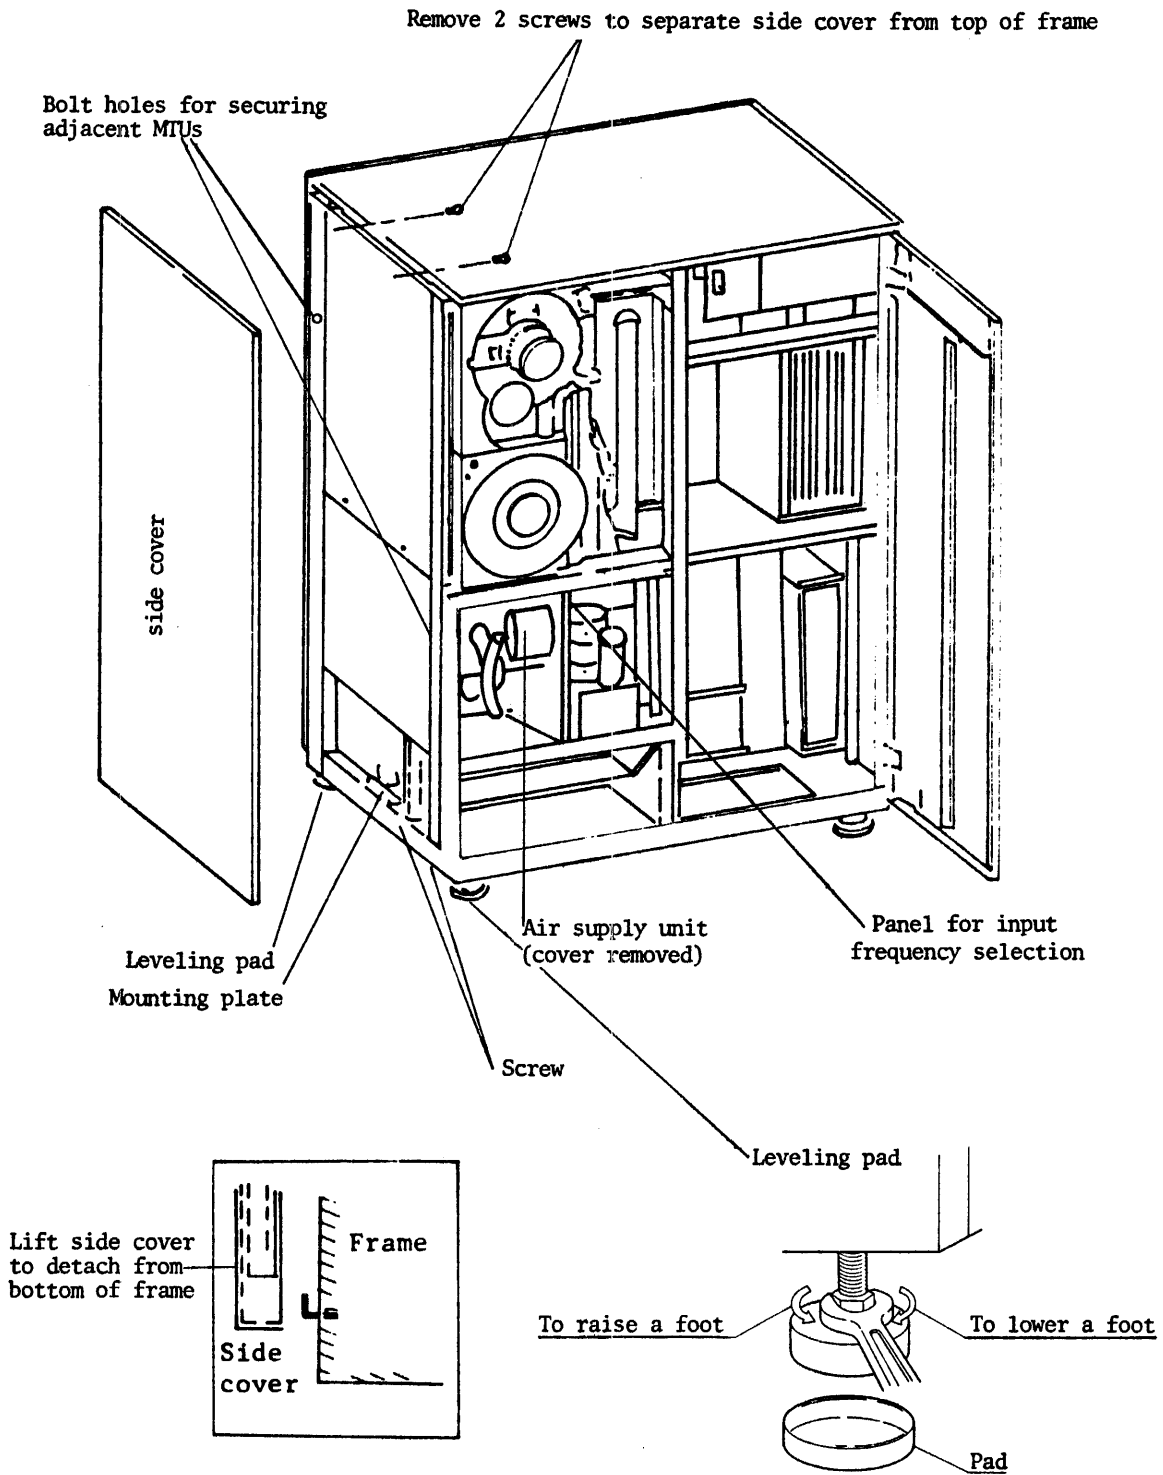

Figure 1-3. Master unit (front view).
When two or more MTUs are installed side by side, remove covers from the sides that will be adjacent to one another. Only the end units require side covers. Refer to Figures 1-3 through 1-6, and follow these steps:
- (1) Remove the two screws shown in Figure 1-3 to loosen side cover from top of frame.
- (2) Lift side cover to detach from bottom of frame.
- (3) Place the MTU(s) in the installation position.
- (4) Level each unit by adjusting the four leveling pads.
- (5) Ensure that the distance between the floor and the bottom of the MTU(s) is 50 mm (approximately 2 inches).
- (6) Continue leveling until bolt holes are aligned on adjacent MTUs.
- (7) Bolt two MTUs together using two bolts in holes shown in Figures 1-3 through 1-5.
- (8) Ensure that all units are stable, level, and free of vibration after bolting.
- (1) Confirm whether facility input frequency is 50 or 60 Hz.
- (2) Remove the cover of the air supply unit. This cover is located on the front of the MTU, as shown in Figure 1-3. The label on the cover specifies whether the unit is set for 50 or 60 Hz input.